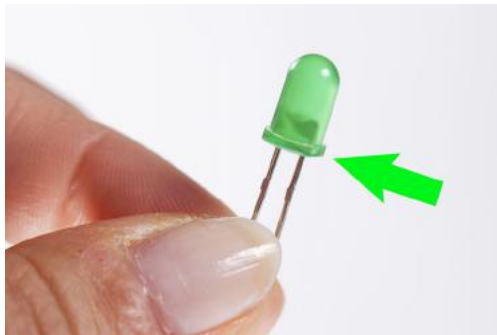

Figure 1-6. *Negative leg of the LED*
2. Look at your LED and determine which lead has a flat side above it on the colored plastic housing—this indicates the negative lead of the LED (the negative lead is also the shorter of the two), as shown in Figure 1-6. LEDs have a certain *polarity* and putting them in backward might damage them.